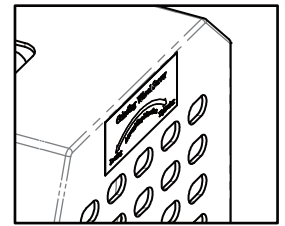

Fig. 15-1
- ① Unplug the power cord and make sure the power is off.
- ② Confirm the screw direction on the grinding wheel cover before changing the grinding wheel. (Fig. 15-1)